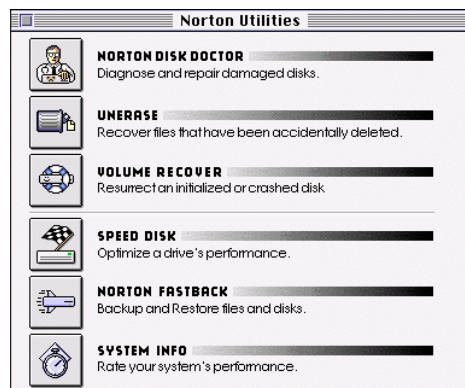

Figure 21. Norton Utilities Main menu
- 2 Double-click the Norton Utilities icon to start the application. The Norton Utilities Main menu appears (Figure 21).